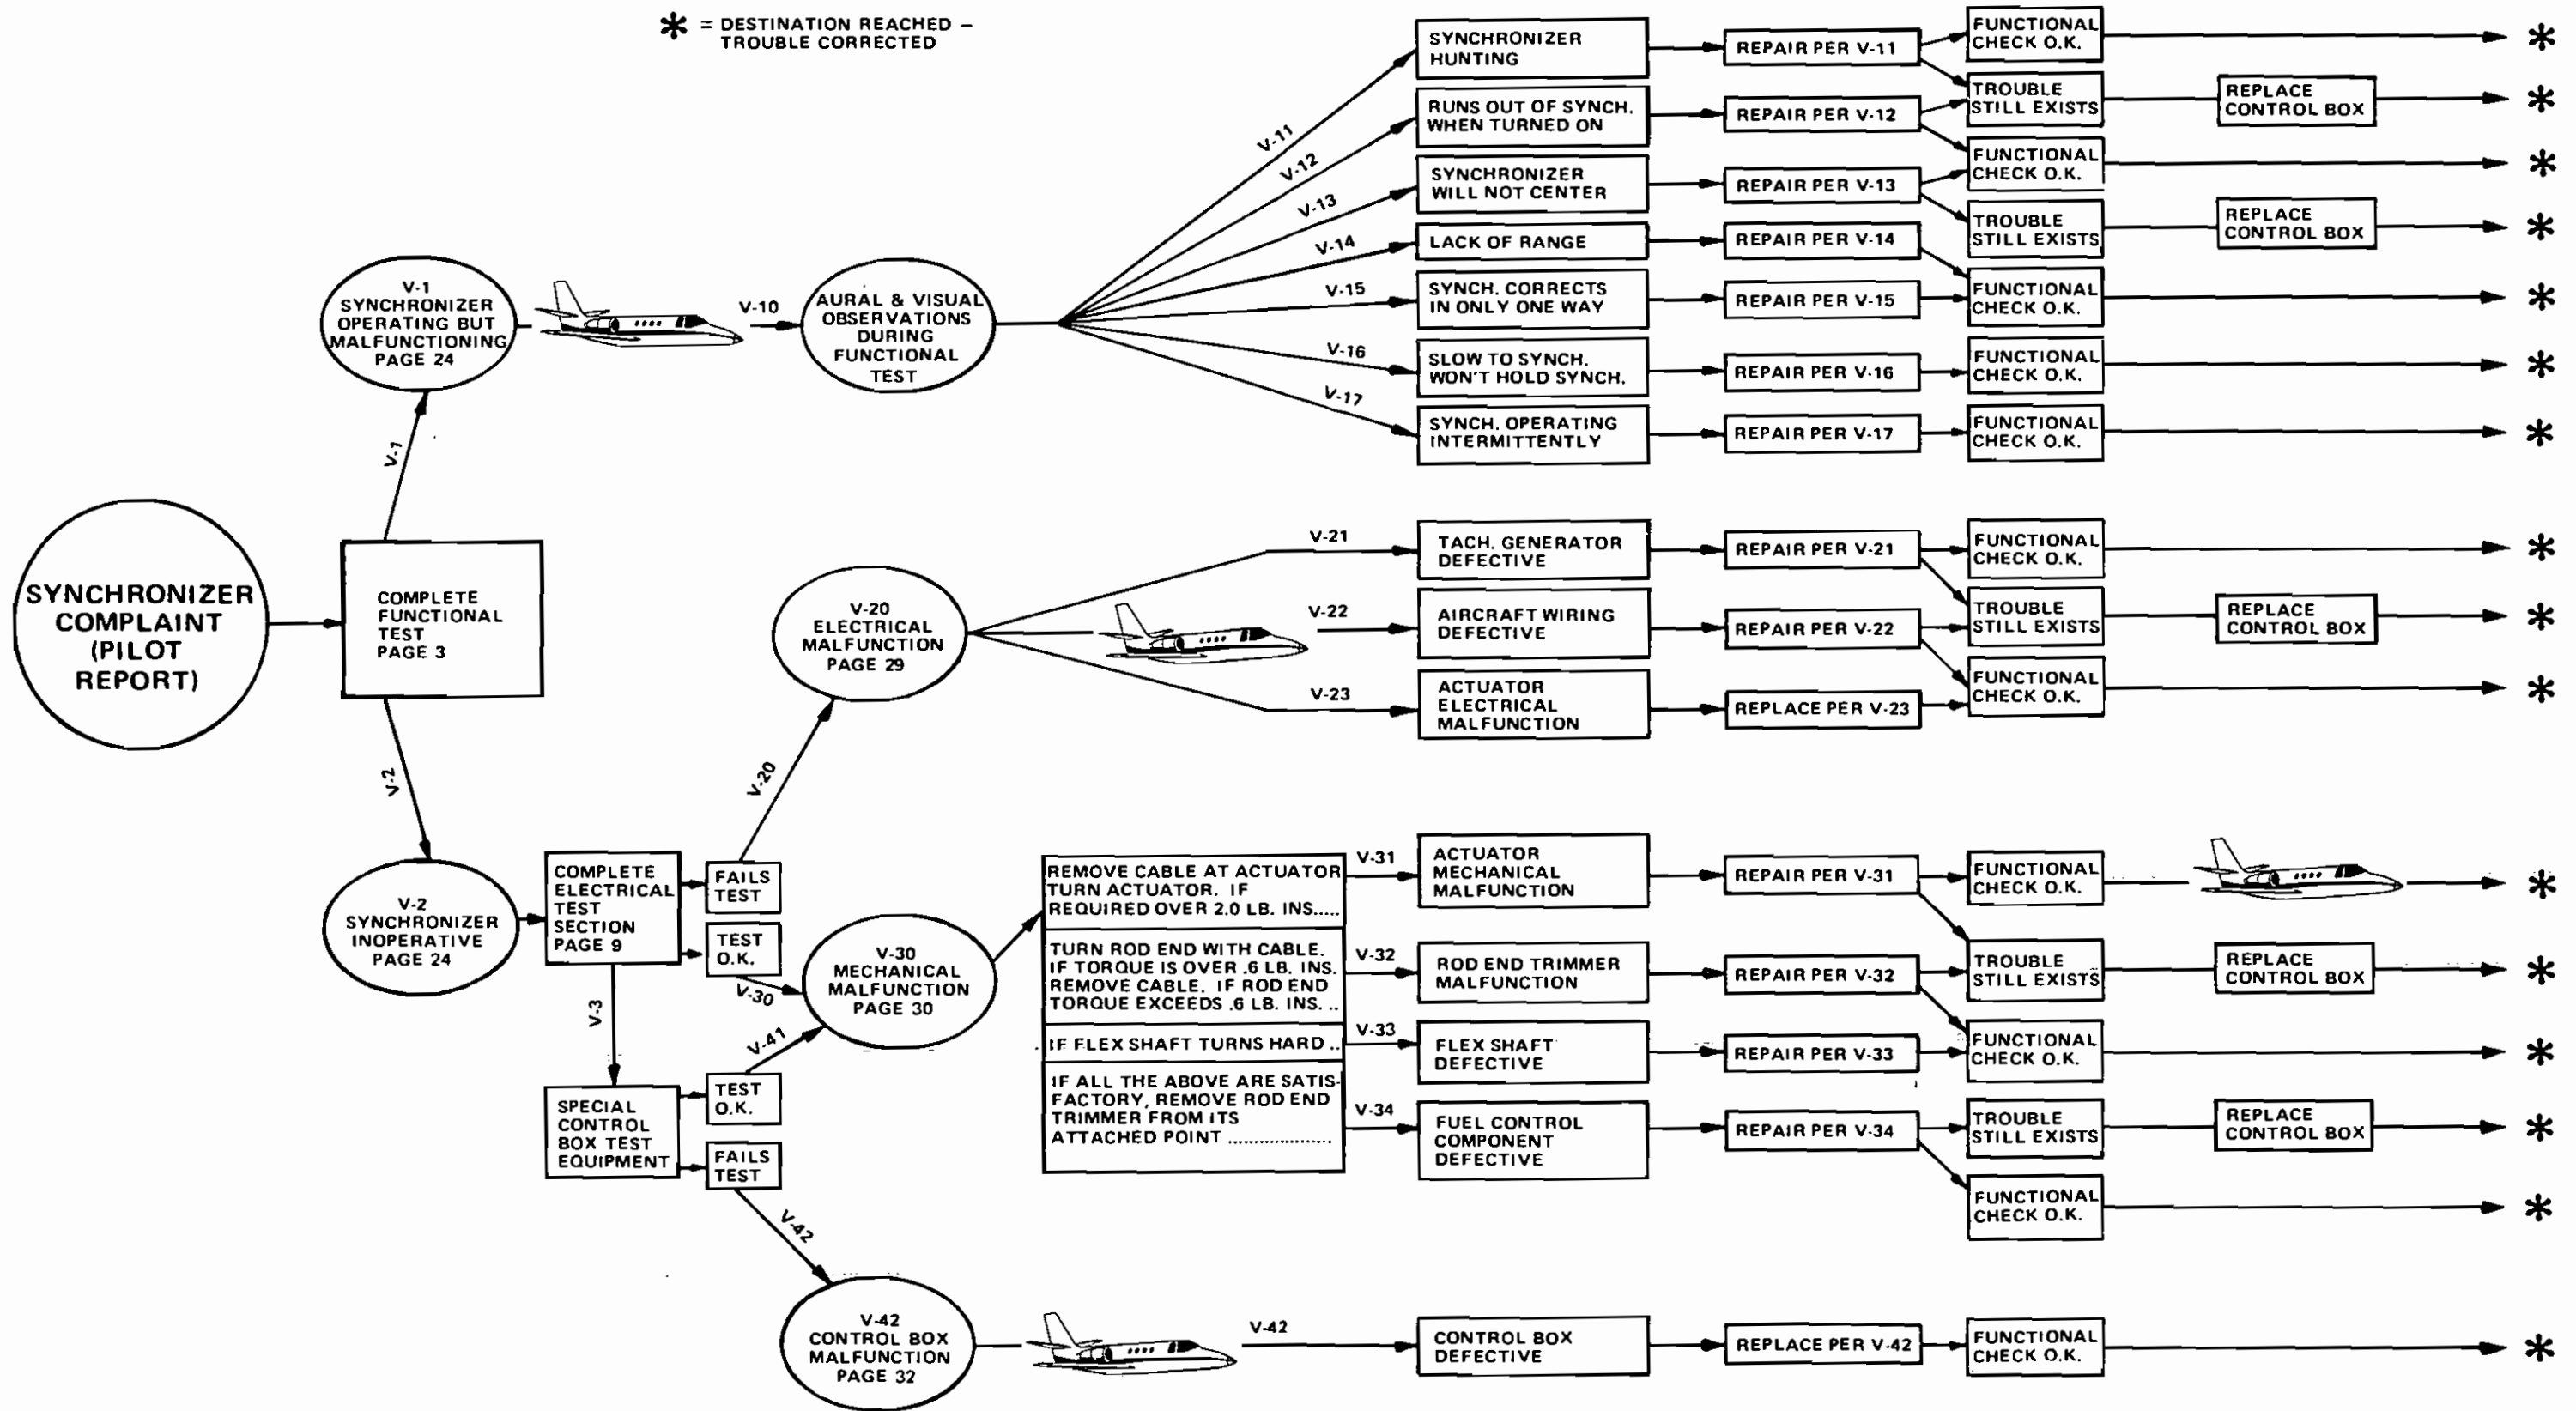

Figure 15. Troubleshooting "Airways" Chart - Cessna Citation 500 Series
**SYNCHRONIZER COMPLAINT (Pilot Report):** Determine all you can from the pilot's report or from your own observation by means of the functional check. Does a report of "inoperative" mean that the system is completely non-responsive to a speed error, or is it working but not synchronizing properly? Refer to figure 15: Troubleshooting "Airways" Chart. A thorough discussion may lend clues to start you off on the right airway. If possible, operate the system yourself to determine the characteristics of the malfunction.
After completion of the functional check and consideration of the above instructions, you now know which airway you should follow for the system is either "completely inoperative" or it is "operating, but malfunctioning". Go back to the Airway map (figure 15), start at one of the above two check points and call the page number shown for further "clearance". Follow the instructions listed after each malfunction until arriving at "trouble corrected" point.